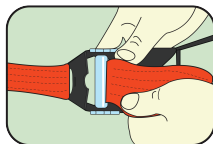

Figure 5
- Make sure that the ratchet is positioned so that the handle is facing down and the ratchet is fully open (open slot on axle should be facing up). Then, feed the end of the Slackline through the top of the ratchet (Figure 5).